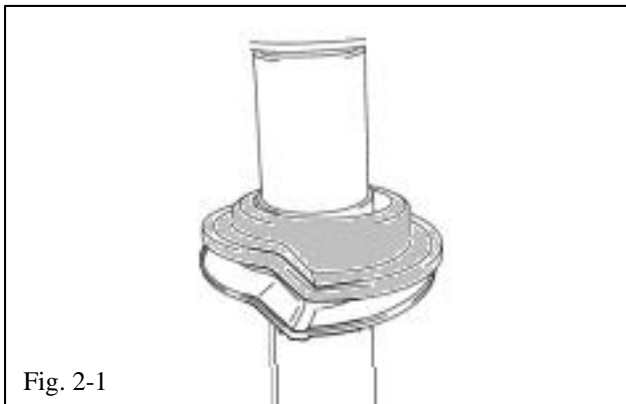

Fig. 2-1
- (b) Transfer the rear lower coil spring insulator to the new spring seat (Fig. 2-1).